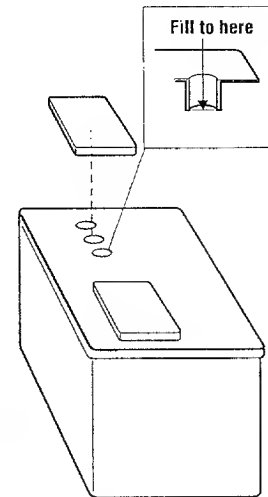

Fig. 7
3. Fill each cell in battery with electrolyte as shown in Fig. 7. DO NOT OVERFILL! Read and follow instructions provided with electrolyte for proper electrolyte package handling instructions.